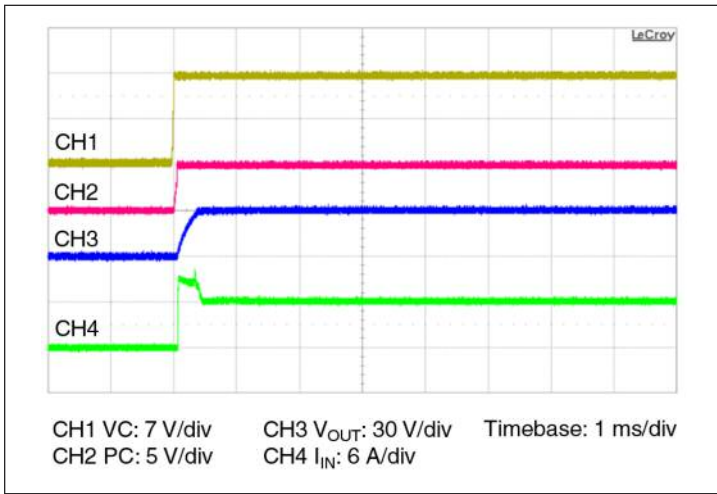

Figure 11 — Start up from application of VC;
- **Stand-alone operation (VC applied after V_{IN}):** In this case the VTM output will begin to rise upon the application of the VC voltage (See Figure 11). The Adaptive Soft Start Circuit (See Section 11) may vary the output rate of rise in order to limit the inrush current to its maximum level. When starting into high capacitance, or a short, the output current will be limited for a maximum of 1200 µsec. After this period, the Adaptive Soft Start Circuit will time out and the VTM module may shut down. No restart will be attempted until VC is re-applied or PC is toggled. The maximum output capacitance is limited to 100 µF in this mode of operation to ensure a successful start.